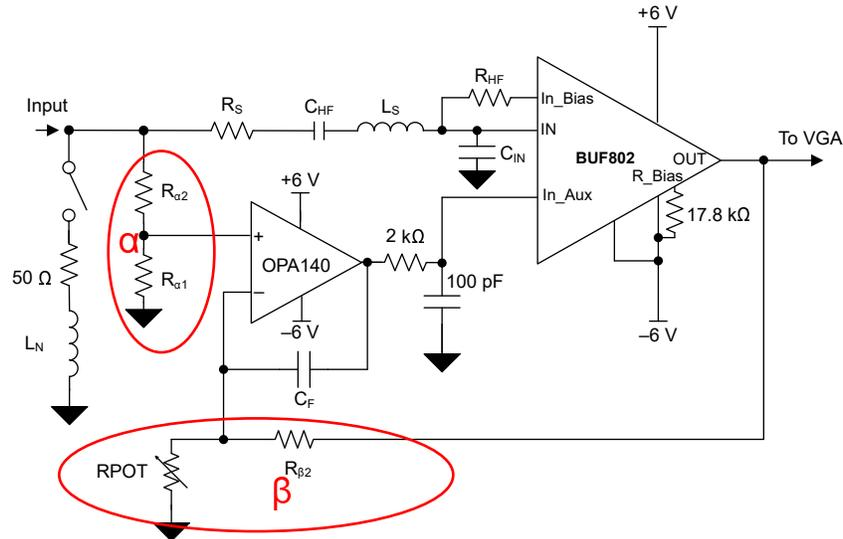

Figure 7. α and β Resistor Network
1. $\alpha/\beta = G$ (where $\alpha = R_{\alpha 2} / (R_{\alpha 2} + R_{\alpha 1})$, $1/\beta = 1 + (R_{\beta 2}/R_{POT})$ as shown in Figure 7 and $G =$ DC Gain of BUF802)